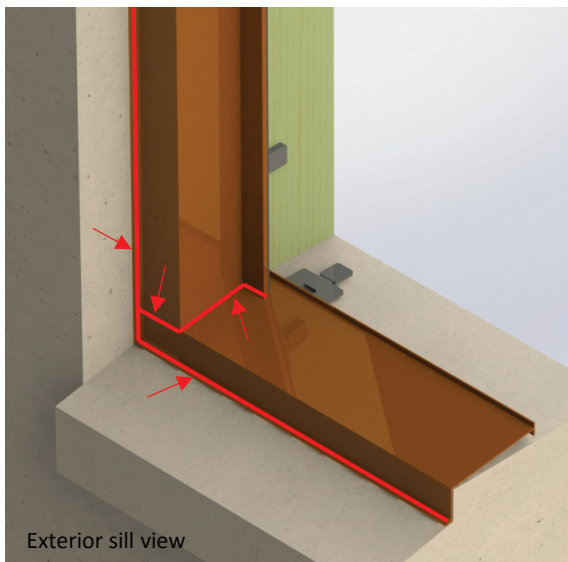

Fig. 8
- A. Apply sealant to the perimeter of the panning system to the surrounding masonry opening, and all seams in the panning system. (Fig. 8 & 9)